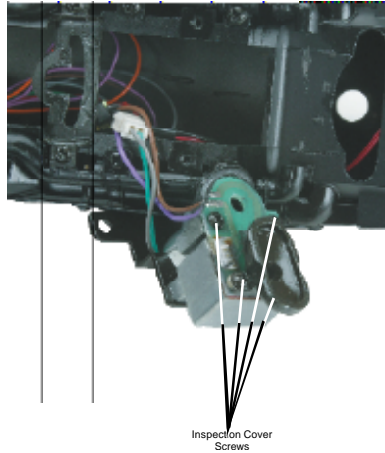

Figure 12
4. Once the unit is freed, remove the inspection cover (Fig. 12). Inspect the wick; if it is darkly discolored and hard, it should be replaced.